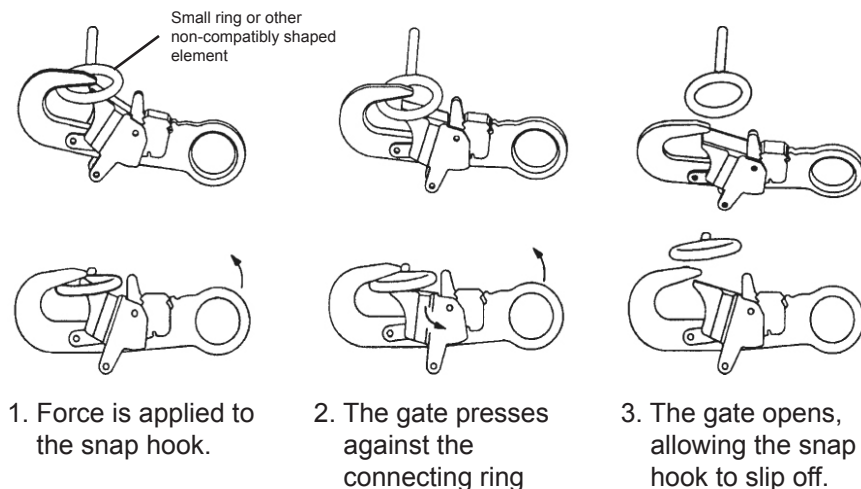

Figure 2
- f) To any object which is shaped or dimensioned such that the snap hook or carabiner will not close and lock, or that roll-out could occur. (Figure 2)
- a) **Fall Arrest:** Anchorages selected for personal fall arrest systems (PFAS) shall have a strength capable of sustaining static loads, applied in the directions permitted by the PFAS, of at least; (A) 3,600 lbs. (16kN) when certification exists (see ANSI Z359.1 for certification definition), or (B) 5,000 lbs. (22kN) in the absence of certification. When more than one PFAS is attached to an anchorage, the anchorage strengths set forth in (A) and (B) above shall be multiplied by the number of personal fall arrest systems attached to the anchorage.